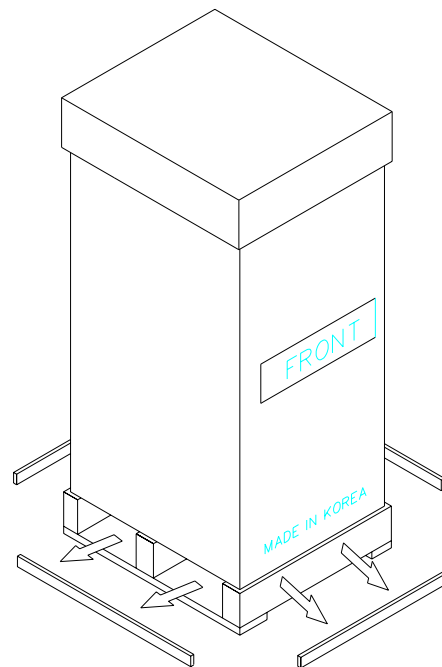

Fig.8
- Use an appropriate tool to remove the nails from the pallette. (refer to Fig.8)